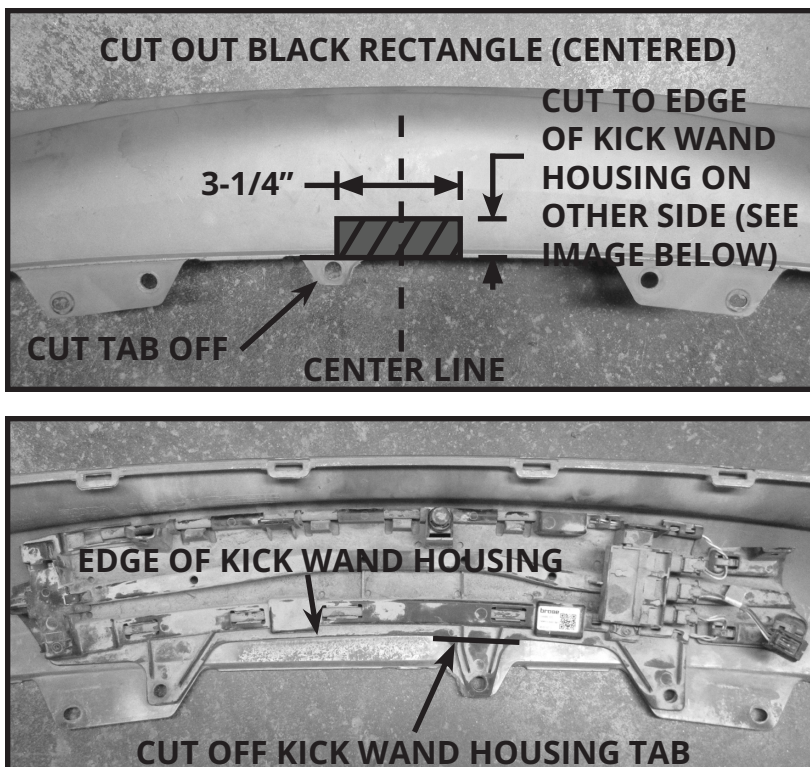

FIGURE A5: VIEW OF REAR FASCIA PARTS
4. The rear fascia (bumper) will need to be modified to allow the receiver to fit underneath the vehicle. With a Dremel tool, use the first image in Figure A5 to measure and cut the rectangle and tab. Next, cut the tab on the kick wand housing as shown in the second image. Smooth the cuts with a file.